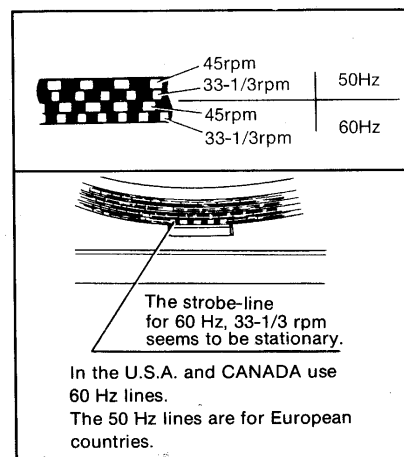

Fig. 17
• Speed adjustment (pitchcontrol) (Fig. 17)